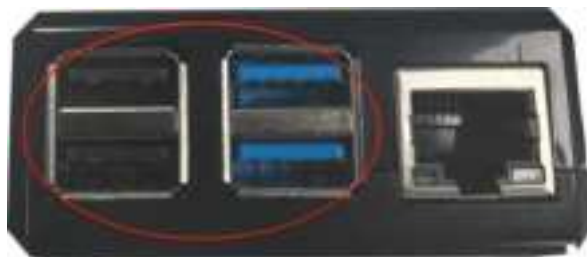

Figure 2 Data ports on Element-D
10. Plug the USB end of the Connection Cable into the data port on the Element-D. The USB connector may be plugged into any USB port on the Element-D as shown in Figure 2.